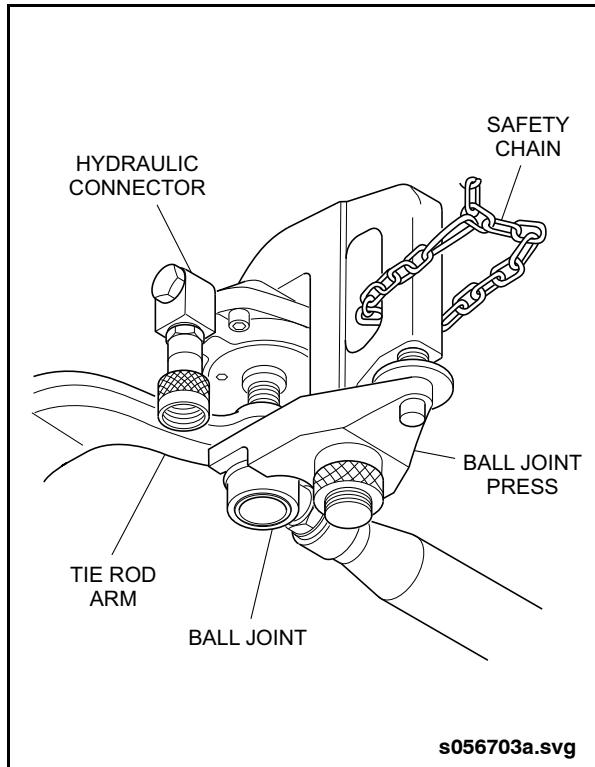

Fig. 1-18: Tie Rod End Removal
2. Assemble the ball joint press (Items 64 & 65) and position over the ball joint. Align the press so the piston is centered on the ball joint and tight. See "Fig. 1-18: Tie Rod End Removal" on page 19.